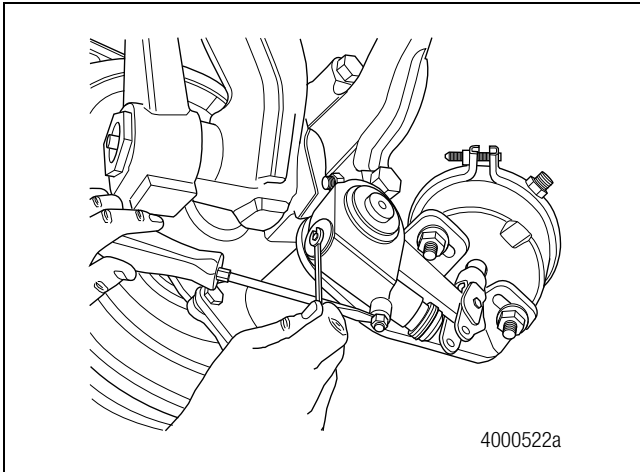

Figure 6.40
4. If necessary, back off the brake at the slack adjuster until the brake shoes retract and the drum clears the linings. Figure 6.40.